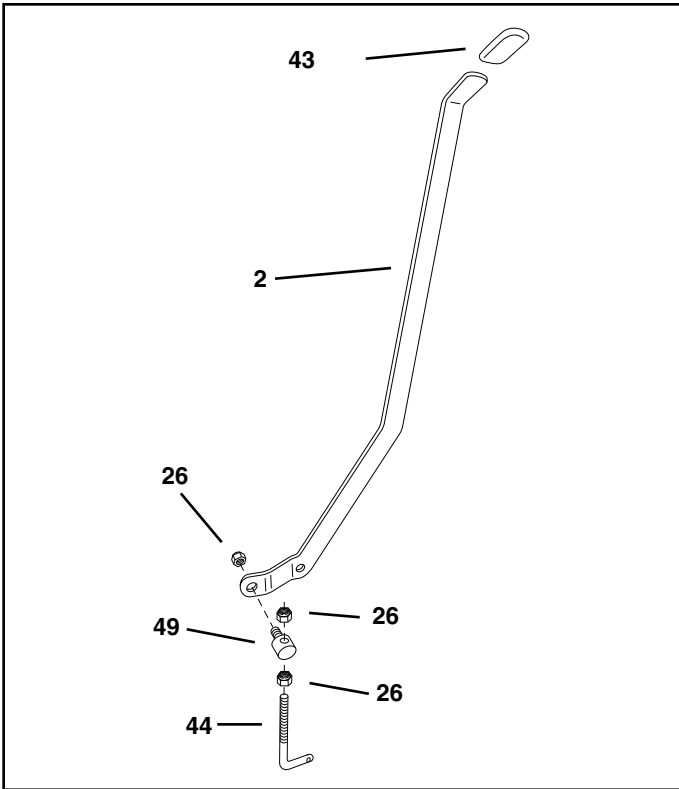

FIGURE 7
- Screw a 1/4" nylock hex nut (26) all the way onto the flow control link (44). Assemble the ferrule (49) onto the link and then start a 1/4" nylock hex nut one or two turns onto the link. See figure 7.
- Assemble the ferrule (49) into the hole at the end of the flow control lever (2) using a 1/4" nylock hex nut (26). **Tighten** the nut, leaving it loose enough that the ferrule can pivot. See figure 7.
- Assemble the grip (43) onto the end of the flow control lever. See figure 7.